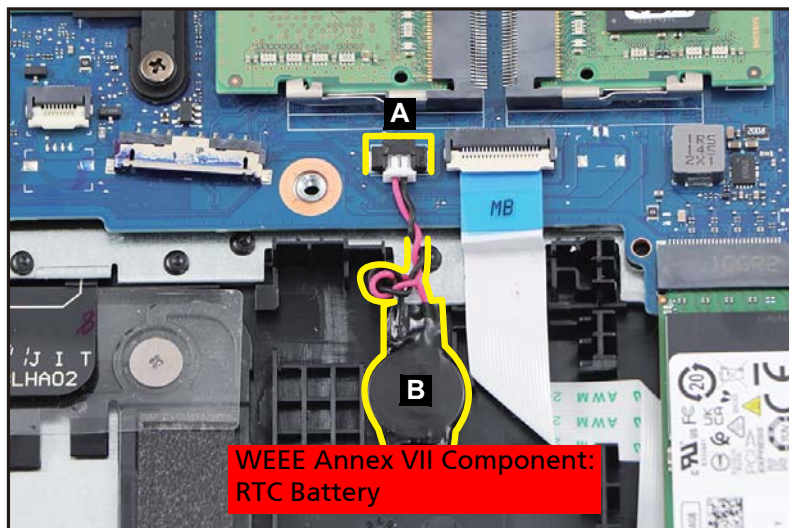

Figure 1-9. RTC Battery Removal
1. Disconnect the RTC battery cable from the mainboard connector (A) (Figure 1-9).
2. Unroute the RTC battery cable from the cable guides as shown in Figure 1-9.
3. Using plastic tweezers, carefully pry to detach the adhesive tape underneath the RTC battery (B). Then remove the RTC battery (Figure 1-9).